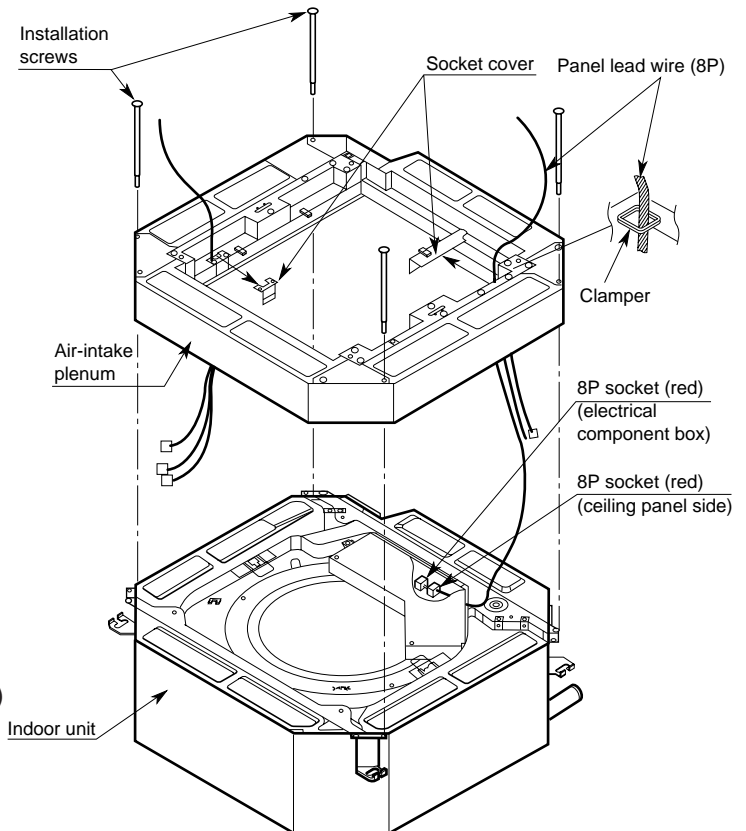

Fig. 3-17
- Set the air-intake plenum to the indoor unit taking care not to set the incorrect direction. (Fig. 3-17)
- Fasten the air-intake plenum with the accessory screws. (M5 × L5 in., 4pcs) (Fig. 3-17)
- Remove the socket cover of the air-intake plenum and pass the 8P sockets through it. (Fix the panel lead wire to chamber side clamber.) (Fig. 3-17)